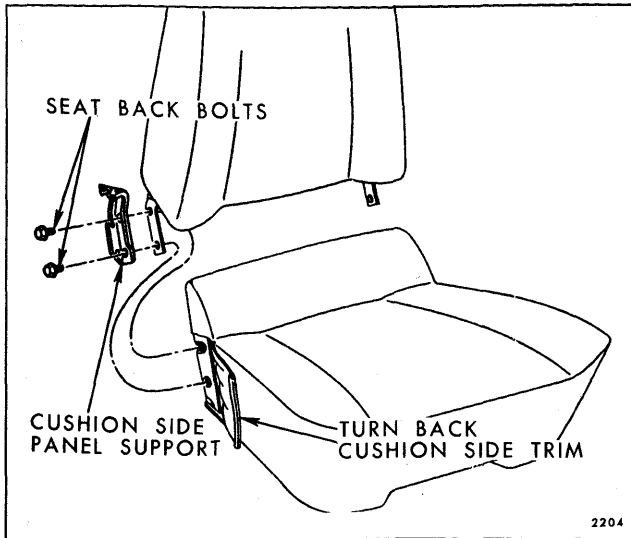

Fig. 10-39—Bucket Seat Back Removal (Without Reclining Seat Back) All Except Corvaire
2. Remove hog rings at both sides of seat securing cushion side trim at rear of seat and fold trim forward sufficiently to expose four seat back attaching bolts (Fig. 10-39).